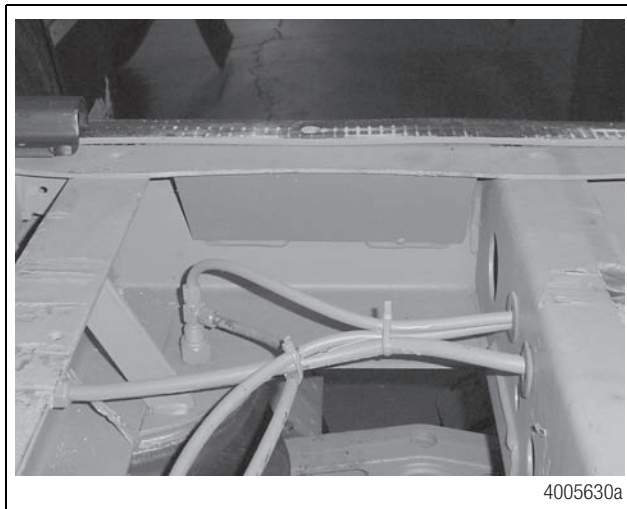
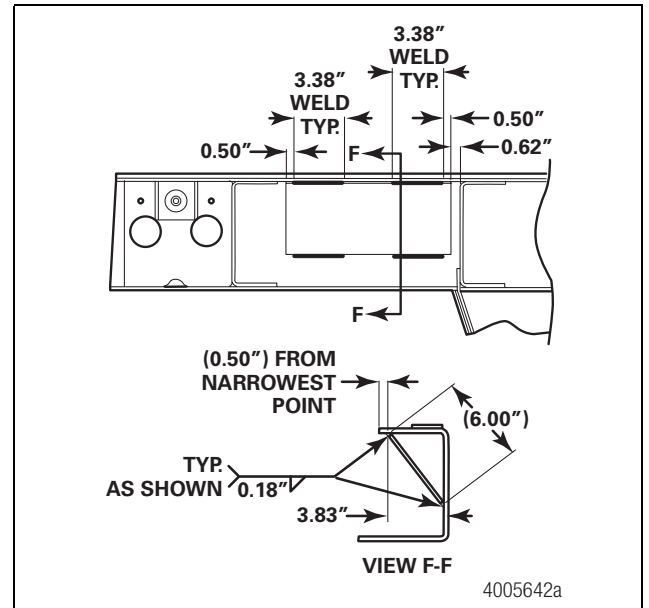

Figure 18
Figure 19
- Position and weld the enhancement plates between cross members one and two. Refer to Figure 18 and Figure 19.